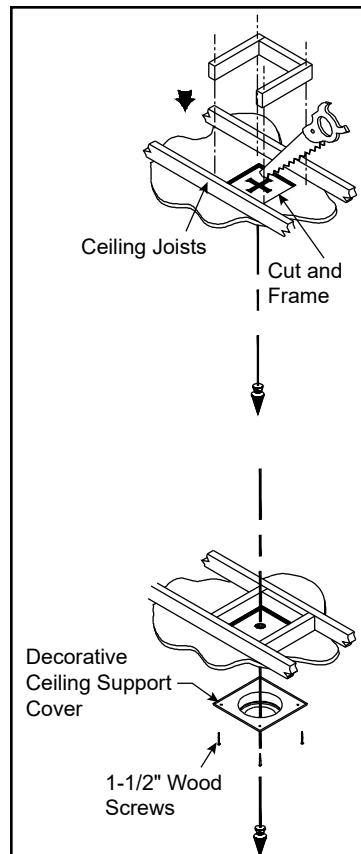

Figure 3.33
Step 3 - To install the round ceiling support/wall thimble cover in a flat ceiling, cut a 10" x 10" (254 x 254 mm) square hole in the ceiling (unless otherwise specified) centered on the hole drilled in Step 2. Frame the hole as shown in Figure 3.33.